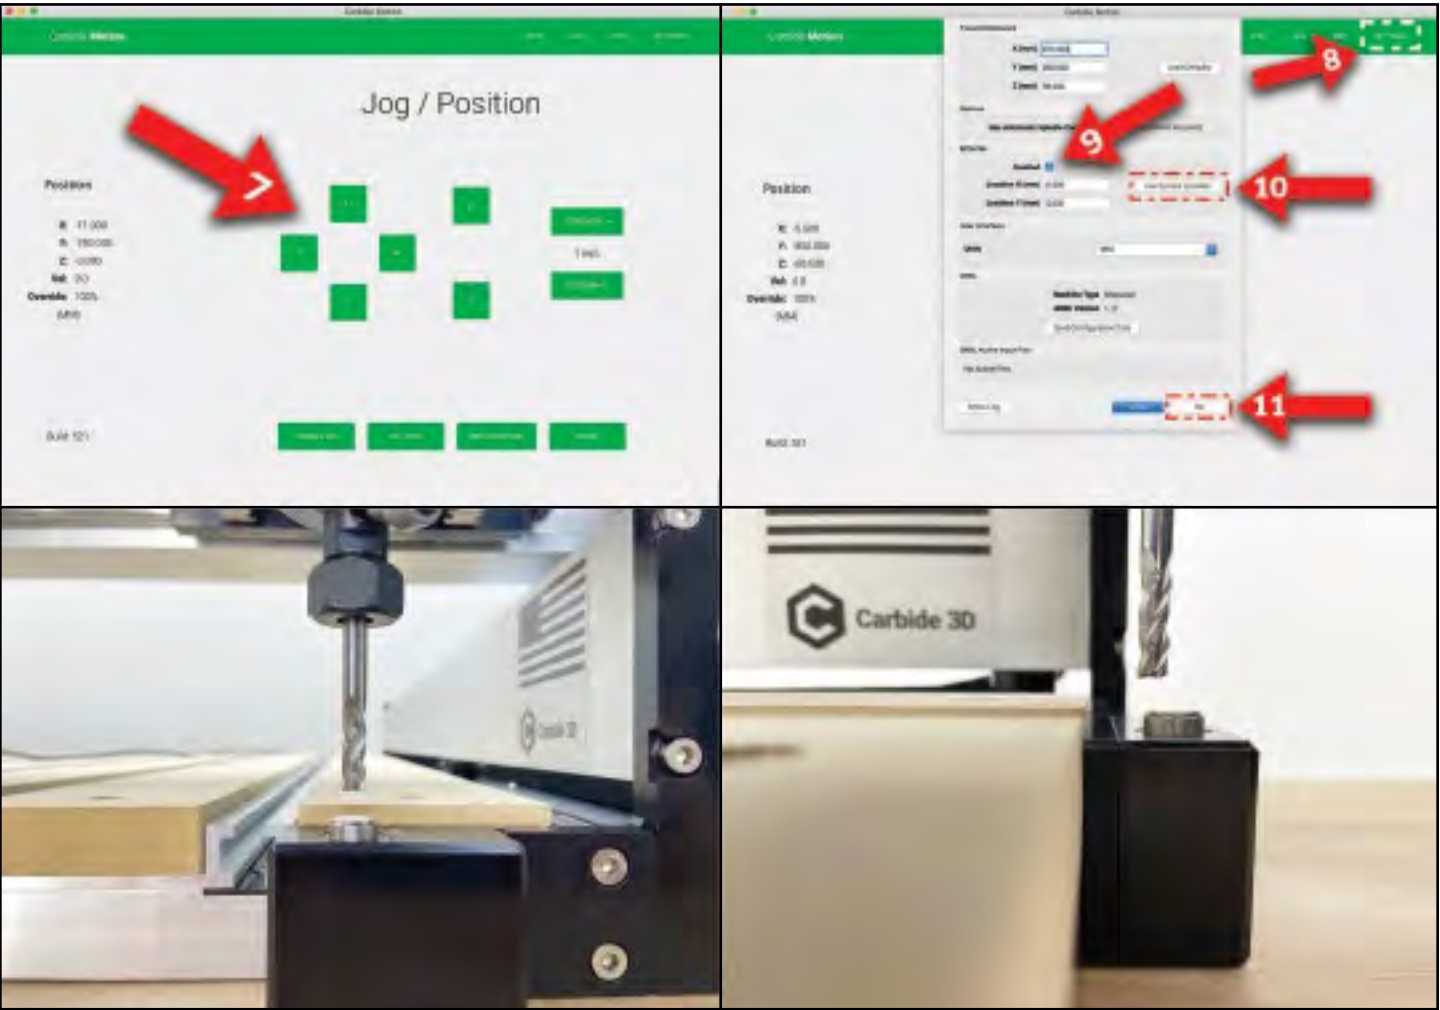

Figure 10.6
7. On the *Jog screen*, use the **Y+ / Y-** and **X+ / X-** buttons (or the arrows on your keyboard) to jog the gantry so the router is directly above the BitSetter. See **Fig. 10-6**.